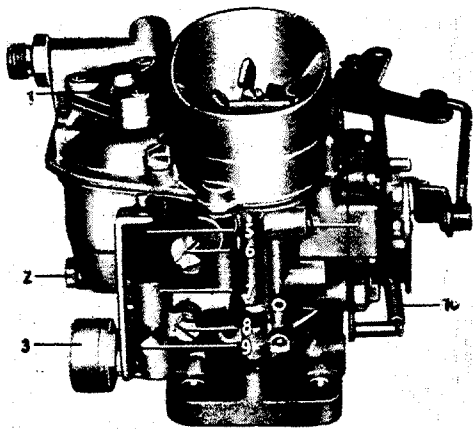

Fig. M 33 S/3
(7) must first be loosened since otherwise the rubber bellows (5) of the shock-absorber might be damaged.
9. Unscrew the hexagon nut with which the lever of the counterweight is fixed to the vacuum valve. Then remove the lever, together with counterweight and oil shock-absorber. If necessary, remove the cotter pin with which the oil shock-absorber is fixed to the lever of the counterweight, and take off the oil shock-absorber. (Be careful not to lose the two washers). (Fig. M 33 S/3).